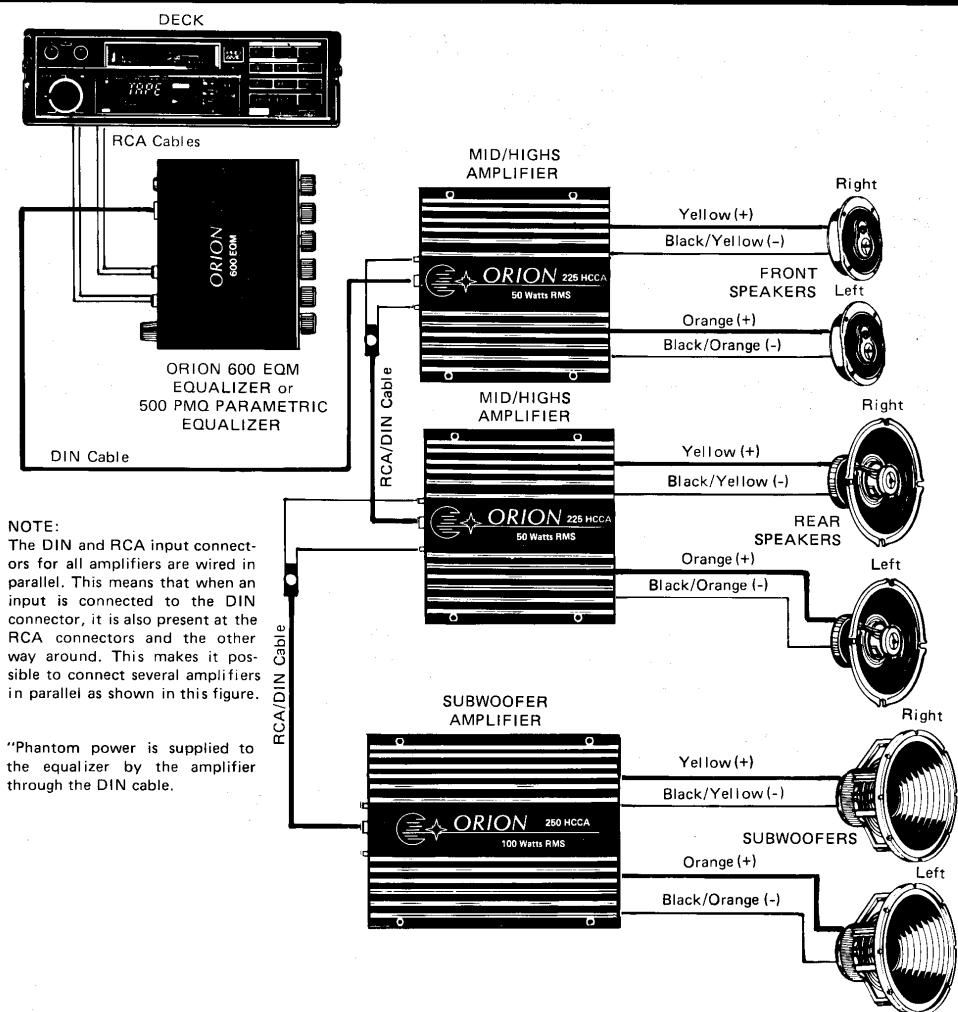

Figure 4. Typical Way of Adding Subwoofers to a System
(3) Adding Subwoofers. For added punch, you could add a couple of subwoofers to the system as shown in figure 4. This will give you the most coherent and natural sound. In this system, a pair of mid-range/tweeter speakers are located in the front (usually in the top of the dash), and a midrange/tweeter speaker is located in each rear door or side panel. The subwoofers are installed in the rear. *This does not mean that the passengers seated in the rear will be overcome by the bass. Low frequency sound waves tend to wrap around the interior such that they are perceived as coming from all directions.*